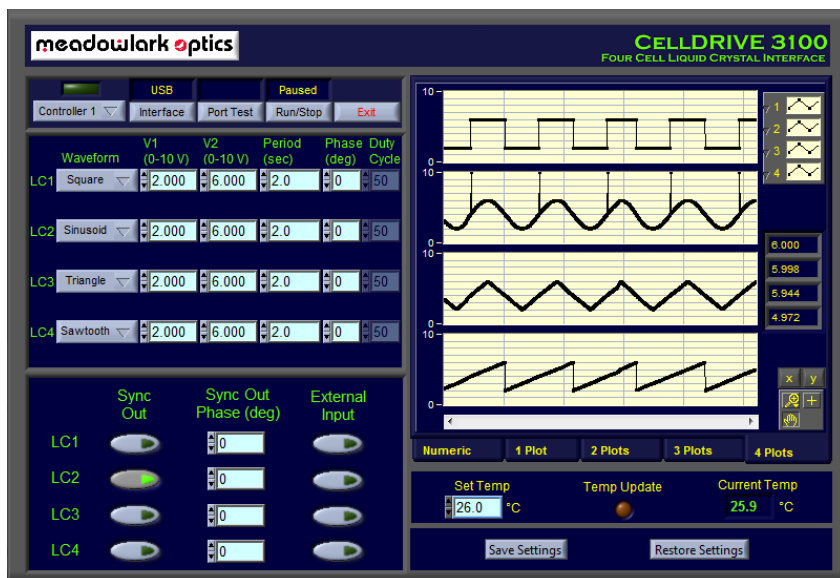

Figure 5 CellDRIVE 3100 User Interface
CellDRIVE 3100 provides for internal or external waveform generation (amplitude modulation of the square wave) and temperature sensing and control options. A closed-loop proportional feedback control circuit in the digital interface controller implements the temperature control feature with a user entered set point and measured temperature monitoring through the user interface. Active heating and passive cooling of the liquid crystal cell achieve temperature control. The user interface, Figure 5, consists of a control section (left-hand side) and a waveform display section (right-hand side). Clicking the Meadowlark Optics logo displays the software and firmware version numbers.
- **Sync Out:** Toggles sync pulse generation on and off for the specified channel. A visual indicator of sync pulse generation is shown as a brief spike on the graph of the generated waveform whenever a sync pulse is output (see waveform 2 in Figure 5). Sync pulse generation may be enabled for any combination of channels. It is up to the user to determine which sync pulses are associated with which channels. [NOTE: The sync pulse is not an actual voltage spike being sent to the LC device.]